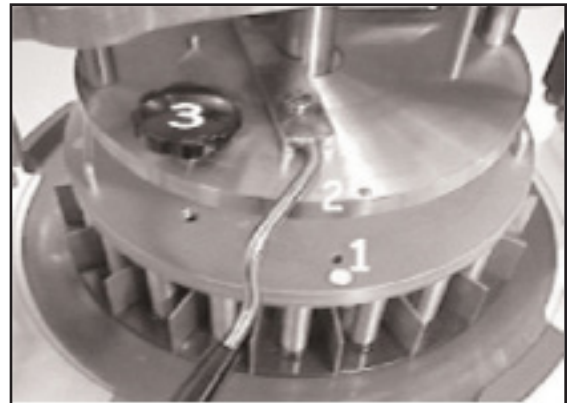

Figure 15
- Rotate the head assembly, Fig. 15, No. 1, ¼ turn clockwise. Alignment pin at front of trip plate, Fig. 15, No. 2, will engage in hole in head assembly, No. 1.
- Tighten both hand knobs (Fig 15, No. 3).